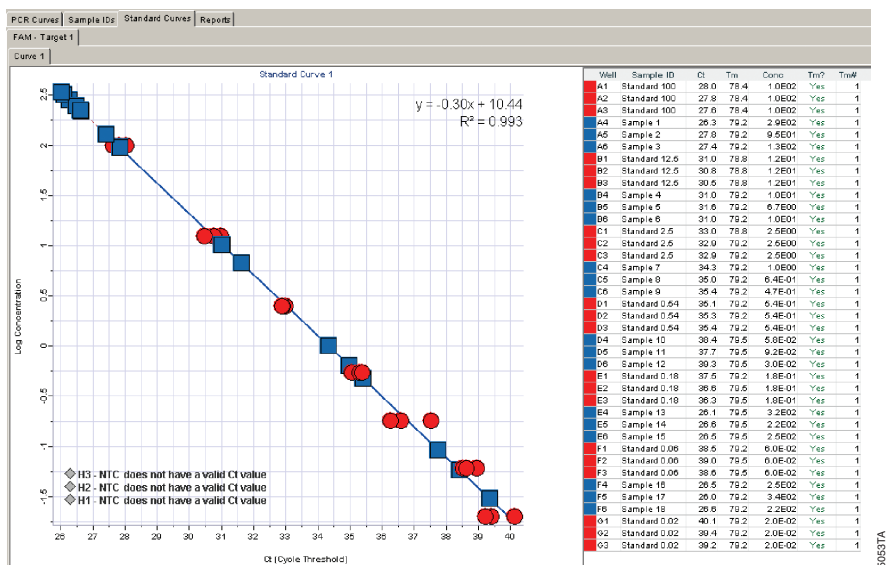

Figure 34. The Standard Curves tab. A standard curve with the log concentration on the Y axis and the cycle threshold on the X axis.
2. Select the “Standard Curves” tab to view the standard curve (Figure 34). The default display shows the log concentration on the Y axis and the cycle threshold on the X axis.
3. View the concentrations for all samples, including the unknown samples, in the table next to the standard curve graph (Figures 34 and 35). The calculated concentrations can also be viewed in the sample details report (Section VII.F.).